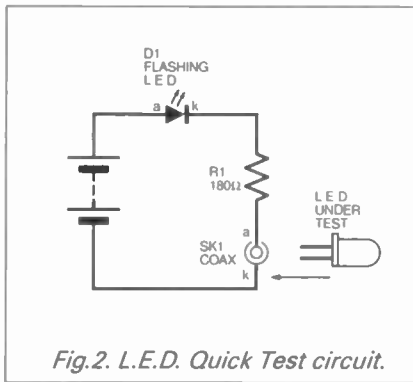

Fig.2. L.E.D. Quick Test circuit.
**M**y idea for a handy unit to quickly check l.e.d.s. is shown in Fig.2. The circuit was intended as a simple one to enable it to be used at Radio Rallies for spot testing of bulk surplus l.e.d.s. A flashing l.e.d. is used (D1) with a 9V battery, and is connected to a coaxial socket.